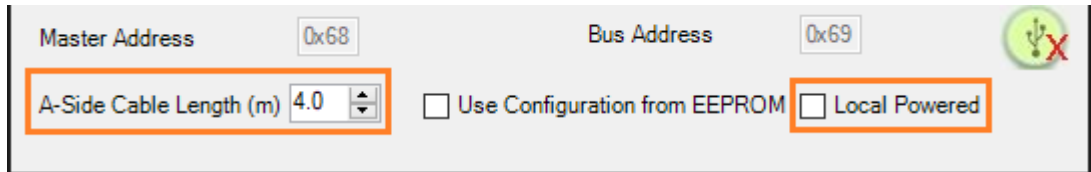

Figure 54: Power Source
2. Set power source and cable length in the Node 'Device Properties' window as shown in Figure 54